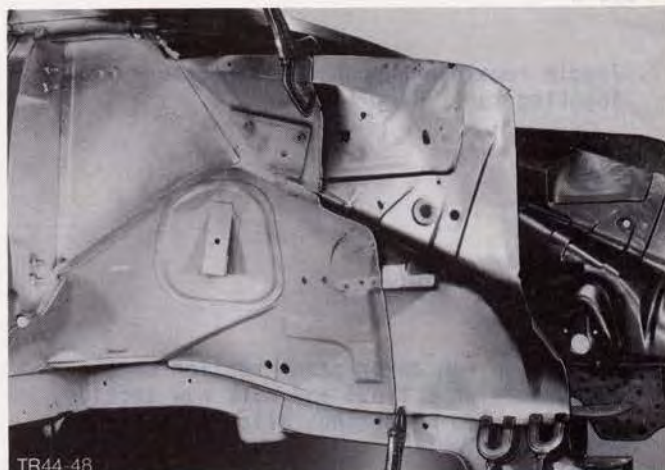

Fig.79. Secure new section with clamps.
11. Offer up replacement apron panel section, trimming it as necessary, and secure with clamps and cramps, Fig.79.